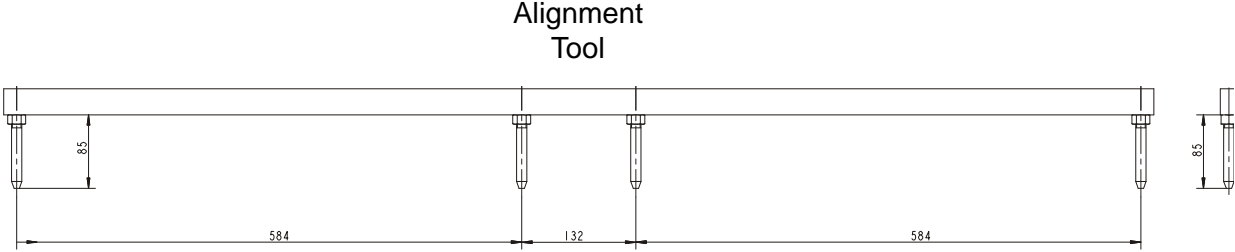

FIG. 6-15
1. The service tool can be ordered at Wood-Mizer (part. no. 099330) or you can make it yourself according to figure 6-15.
See Figure 6-15.